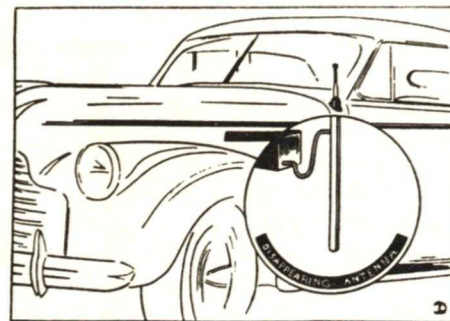
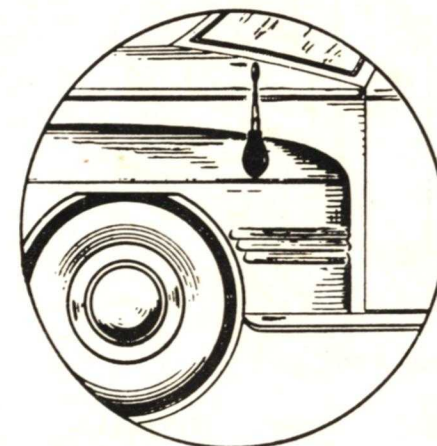

FIG. 13. A disappearing side-cowl type, which can be extended for distance reception.
FIG. 14. A disappearing fender-mounting antenna.
► Some antennas are made even more inconspicuous by being mounted so they disappear into the cowl or fender. Fig. 13 shows an installation in which a hole is drilled through the cowl and the antenna is mounted in a tube inside the car. Some antennas of this type are manually extended, while others are operated by compressed air obtained from the engine. Fig. 14 shows a fender-mounted type.